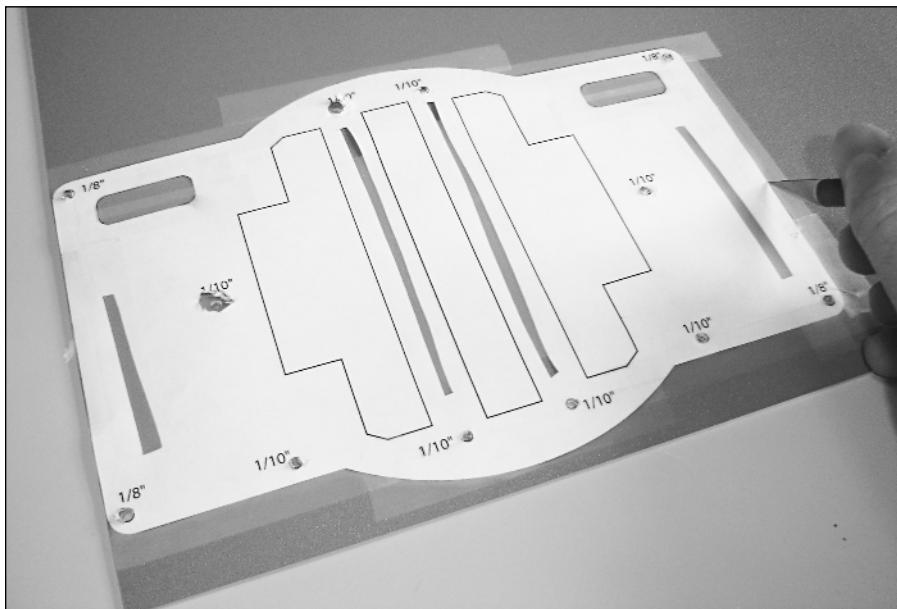

FIGURE 10-10: The rear plate being cut. Note the extra slits in the paper that allow it to be taped down in more places.
3. Once you've drilled all the holes, you can make grooves along all the shapes and edges, as shown in Figure 10-10.